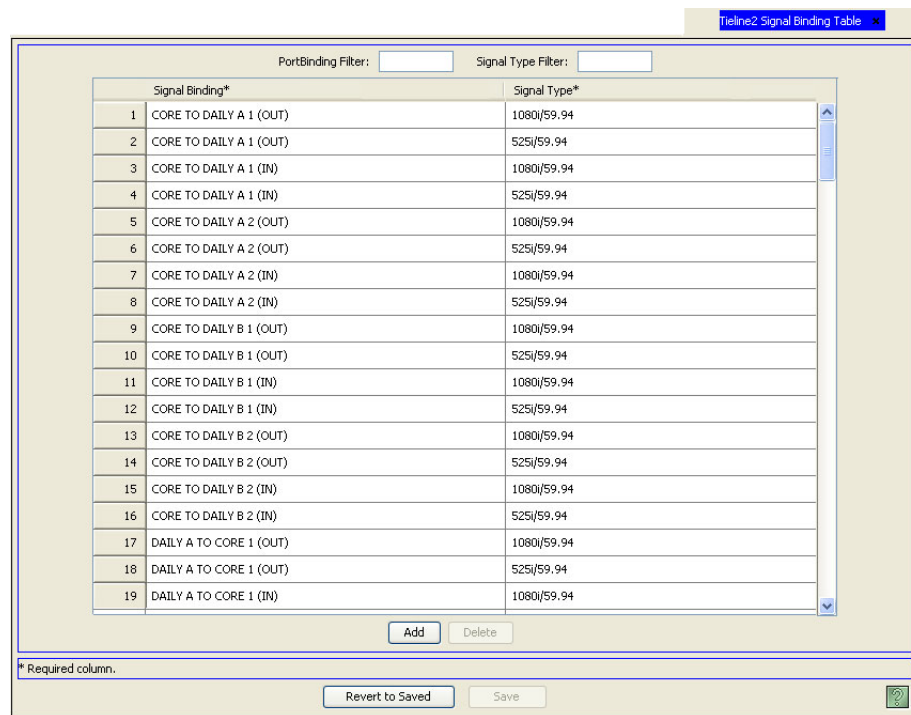

Figure 16-11. Tieline Signal Binding Table
- 2 From the Navigation area, select the 'Views' pane and then 'Tieline Signal Binding'. The 'Tieline Signal Binding' table appears, as shown in Figure 16-11.